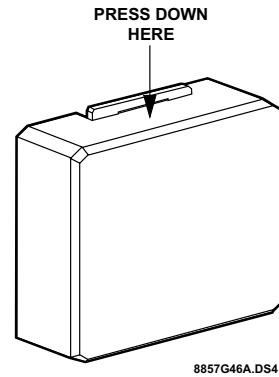

Figure 2. Removing the Enclosure Cover
1. Press down on the top center of the cover and pull it away from the base (see Figure 2). Set the cover aside.